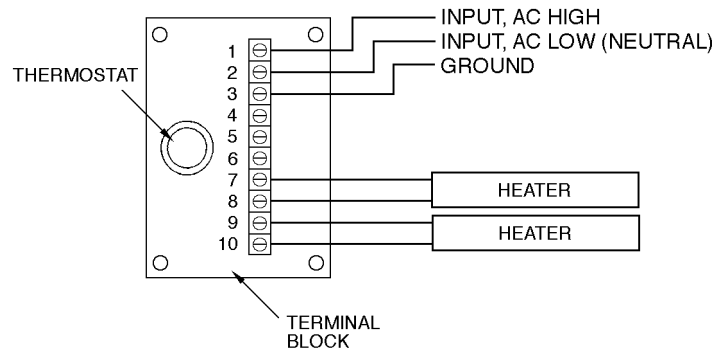

Figure 2. HKHS3000 and HKHS3024 Wiring Diagram
4. Wire per wiring diagram in Figure 2.